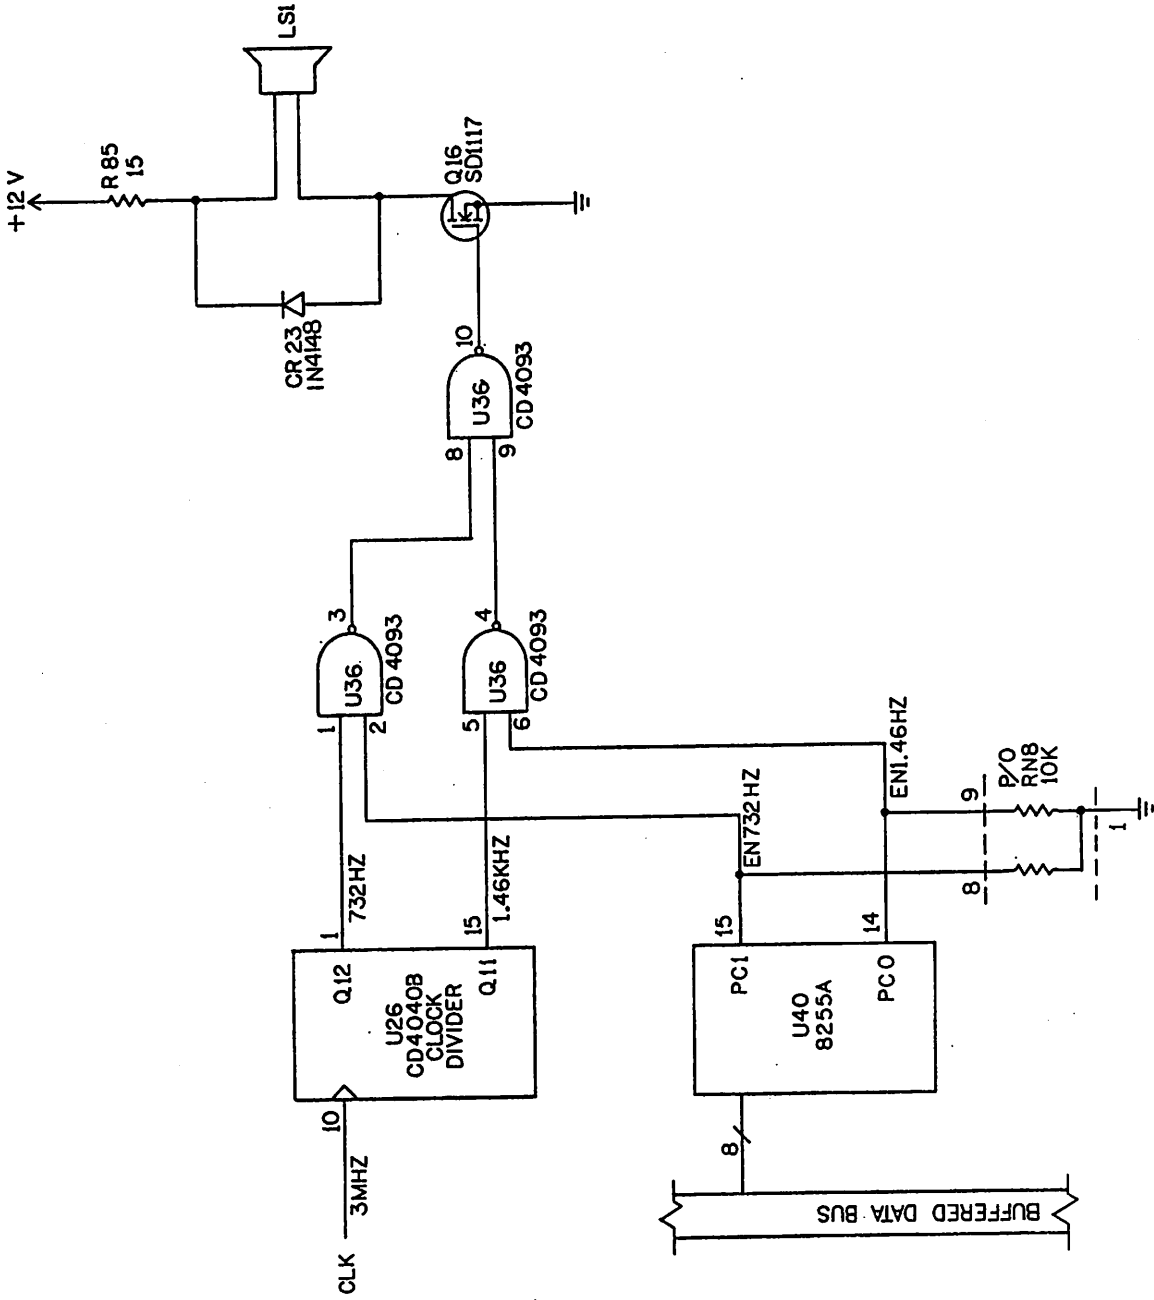

Figure 3-18. Speaker Alarm Circuit
3.6.2 Speaker Alarm Circuit (figure 3-18)